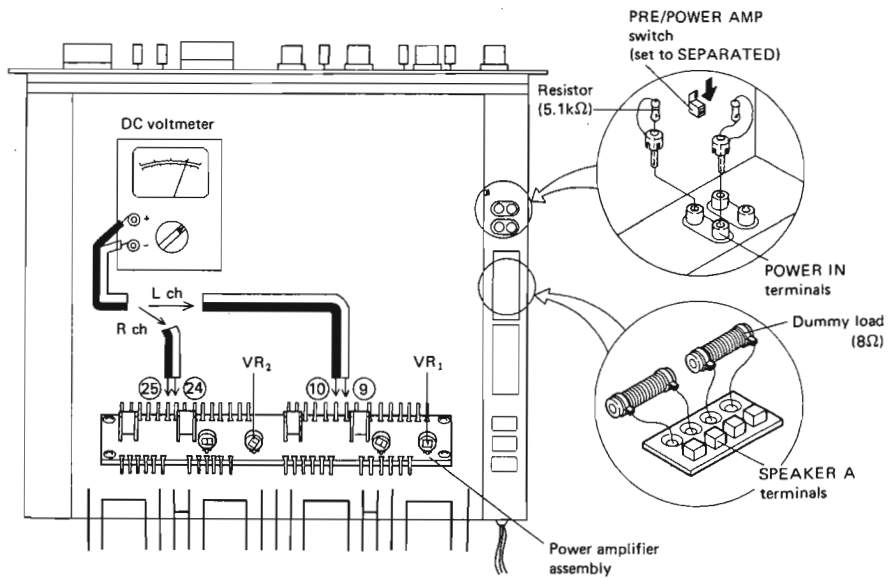

Fig. 16
- (1) Set the PRE/POWER AMP switch to the SEPARATED (lower) position.
- (2) Fit  $5.1k\Omega$  resistors to the POWER IN terminals as shown in Fig. 16.
- (3) Connect  $8\Omega$  dummy loads between the SPEAKER A terminals as shown in Fig. 16.
- (4) Set the SPEAKERS switch to position A. Turn on the POWER switch.
- (5) Connect a DC voltmeter (100mV/full scale) between pins 10 and 9. Adjust VR1 until the voltmeter indicates 0V.
- (6) Connect the DC voltmeter between pins 25 and 24. Adjust VR2 until the voltmeter indicates 0V.